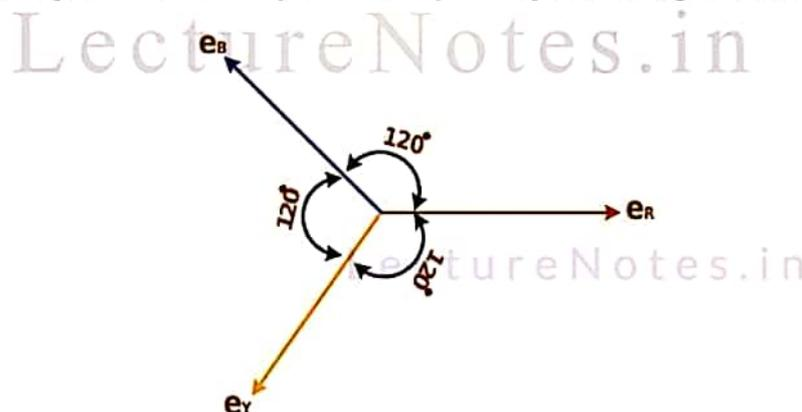

Figure 2.46 Phasor Diagram of Three Phase EMF
- The above equation can be represented by their phasor diagram as in the Fig. 2.46.